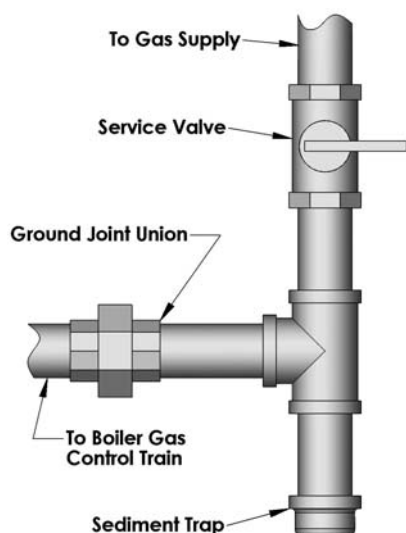

Figure 3.13: Gas Supply Connection to Boiler
- e) Install a Service Valve, Sediment Trap and Ground Joint Union at the supply connection to the Gas Control Train as shown in Figure 3.13. These components are to be supplied by the installing contractor and are not part of the boiler or burner. Install them in accordance with local codes or in the absence of such authority with the codes listed in paragraph 1.B.